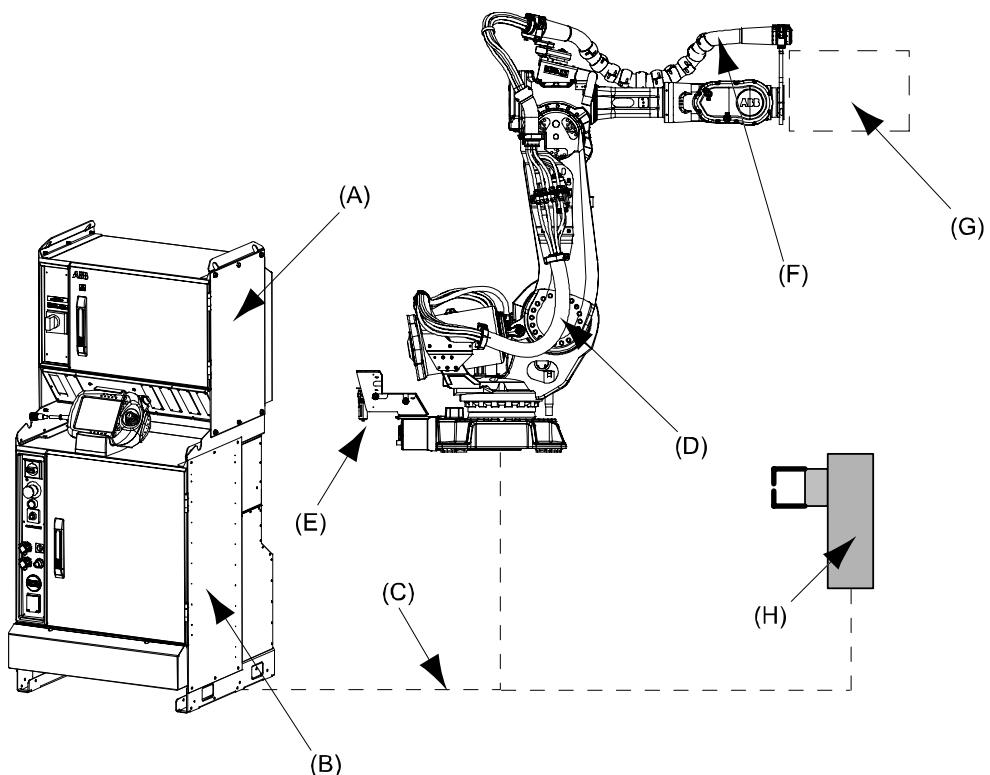

Figure 72 Type H/HS/HSe Dresspack.
Variant Type H is designed for Material Handling (MH) application and HS(e) to handling parts against a stationary Spot Welding gun (pneumatic or servo controlled). Included modules are shown in Figure 72.